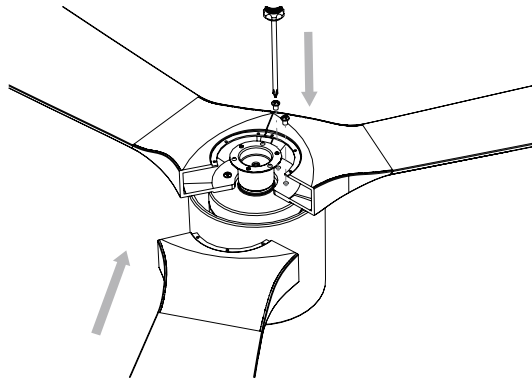

FIGURE 8
1. Place fan blade on motor as shown in Figure 8 and secure with the blade attachment screws and washers.
2. Repeat this procedure with the remaining blades (Fig 8).